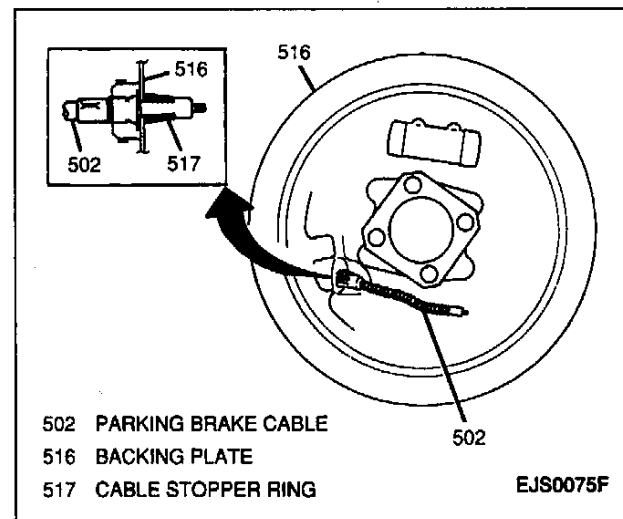

Figure 7—Parking Brake Cable at Backing Plate
9. Cable stopper ring and parking brake cable from brake backing plate (Figure 7).